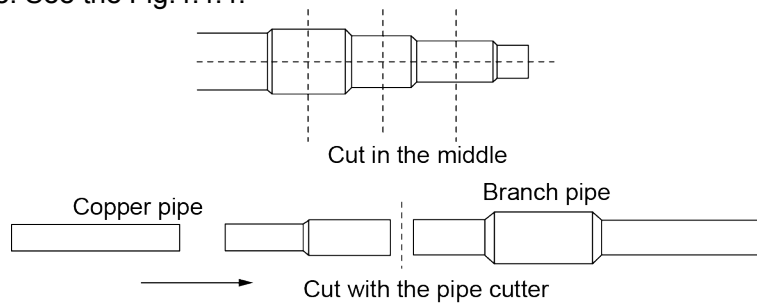

Fig.4.4.4
- 3) Manifold has several pipe sections with different pipe size, which facilitates to match with various copper pipe. Use pipe cutter to cut in the middle of the pipe section with different pipe size. See the Fig.4.4.4.